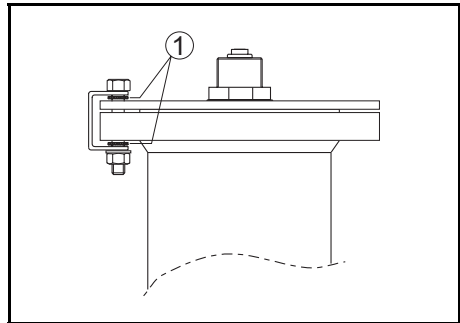

Figure 8.5 Example of flange ground
To ensure a good grounding between the adapter plate and the flange, a copper strip must be placed under one of the flange bolts. A shark ring (1) should be placed between flange and strip (see figure 8.5).